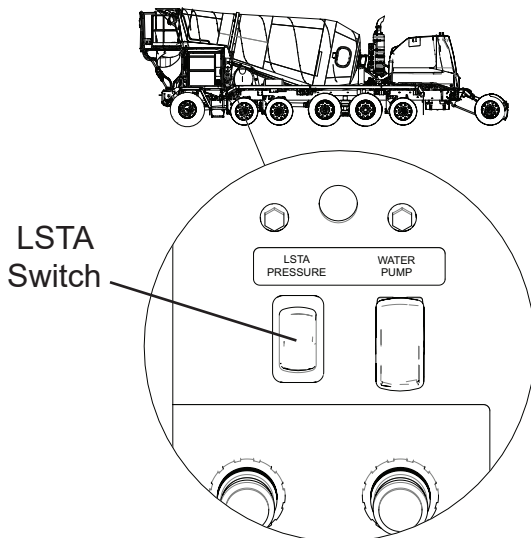

Figure 1
3. Remove LSTA rocker switch from left side of front pedestal, see Figure 1.
13. Install rocker switch in front pedestal, see Figure 1.